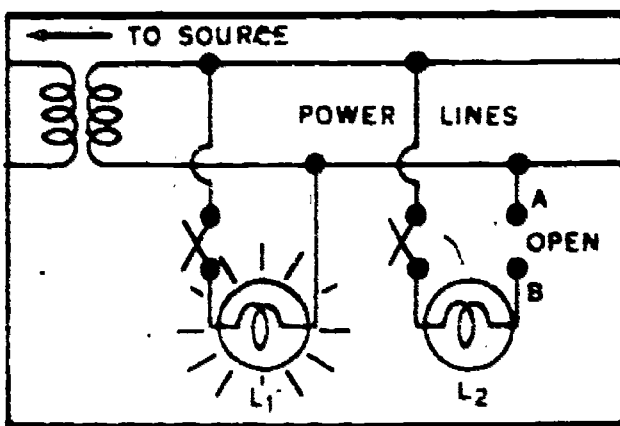
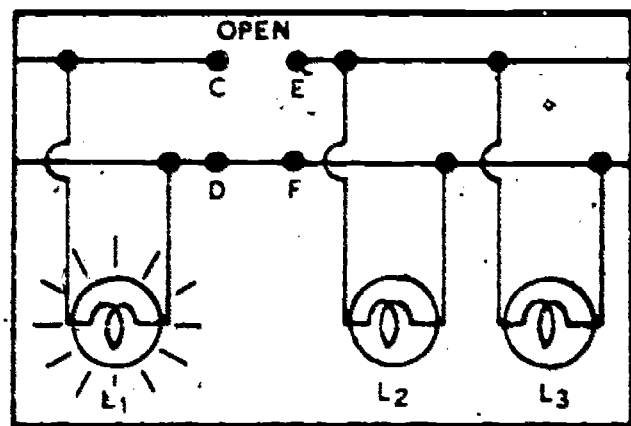

Figure 38. Open Circuit Single-phase Two-Wire System, " $L_2$ " Out
Figure 39. Open Circuit Single-phase System, " $L_2$  and  $L_3$ " Out
**OPENS.** An open circuit is one that has a break in any part of the electrical circuit between the unit of resistance and the source of voltage. The effect of an open is that no current can flow so the unit is inoperative. (In some instances, a unit might be "fed back" through another circuit.) See the effect of an open in figures 38 and 39.
In the case of figure 38, only  $L_2$  would be inoperative. In figure 39 you will see that the location of the open causes  $L_2$  and  $L_3$  both to become inoperative.